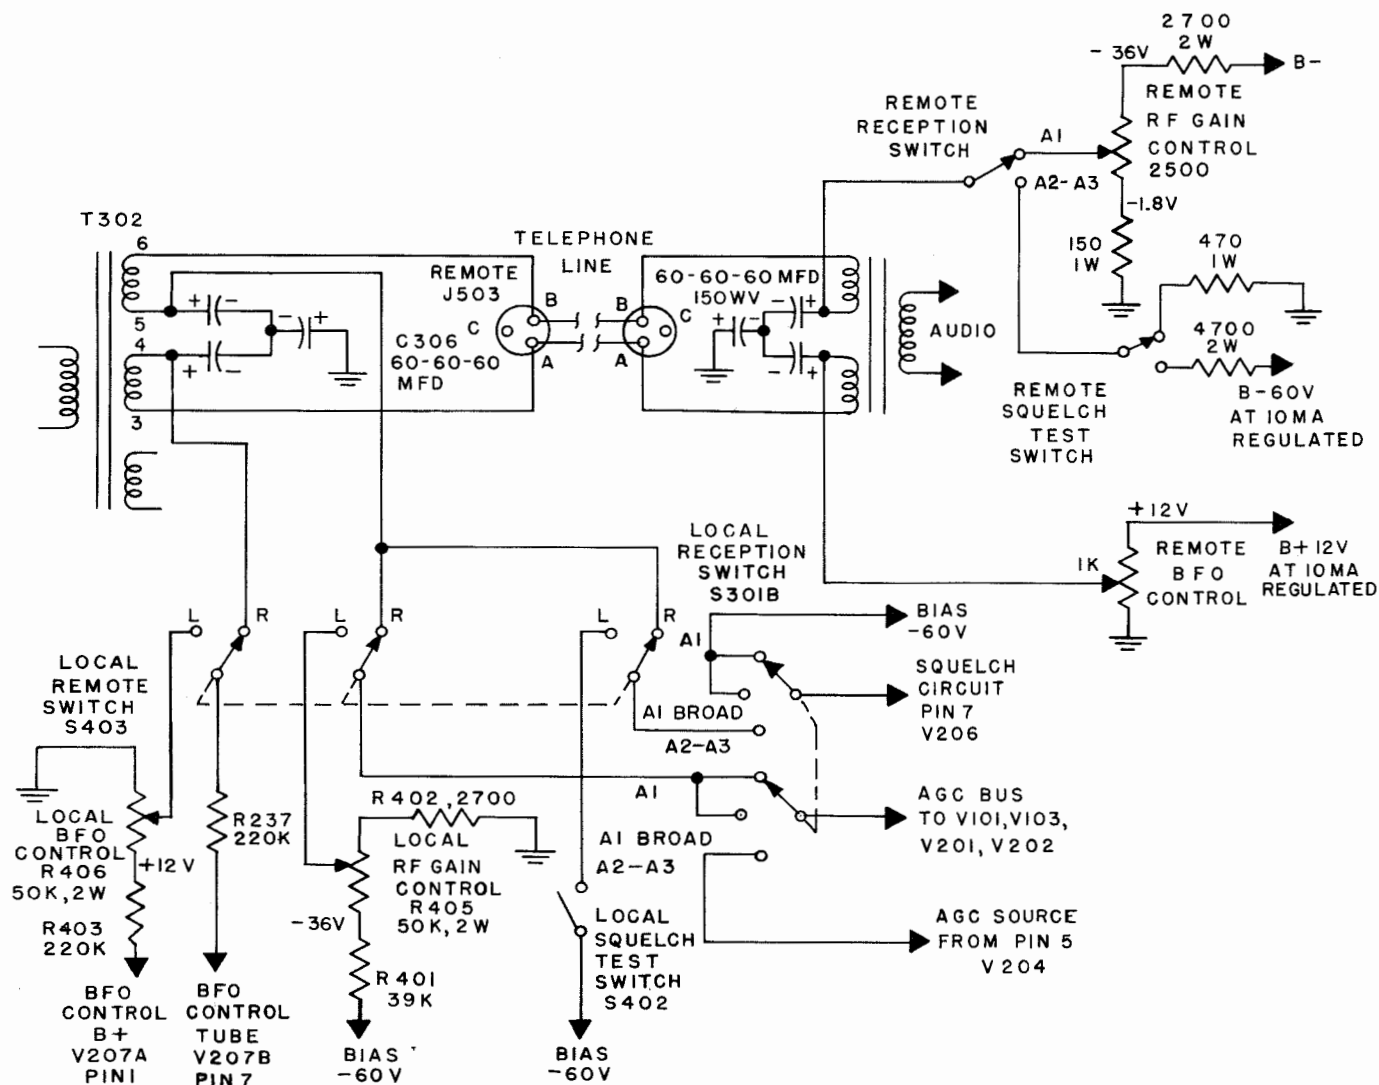

Figure 2-24. Simplified Schematic—Remote Connections
d. REMOTE CONTROL FUNCTIONS.—Figure 2-24 shows a schematic wiring diagram for the remote control connections. The high level output winding of audio output transformer T302, terminals 3, 4, 5 and 6, has its center tap effectively bypassed for AC by a triple section electrolytic capacitor C306. This capacitor per-
The remote BFO control should provide an adjustable voltage from 0 to +12 volts utilizing a potentiometer with the same taper as the local BFO control (R406). As can be seen from figure 2-24, the positive remote BFO control voltage is connected to the lower half of the remote transformer primary winding, through pin A of J503, through secondary winding 3-4 of T302 and thus to the REMOTE position of the LOCAL-REMOTE switch (S403). The local BFO control (R406) is connected to the LOCAL position of the LOCAL-REMOTE switch (S403). A remote RECEPTION switch must be provided so that either of the two control functions applied to the other side of the telephone line can be selected. Figure 2-24 indicates the remote RECEPTION switch. When switched to A1, it connects the RF gain control voltage from the remote RF GAIN control through the remote RECEPTION switch to the upper side of the telephone line. This function passes through pin B of J503 and through T302 winding 5-6 and is then connected to two REMOTE contacts of the LOCAL-REMOTE switch (S403). The local RF GAIN control (R405) is connected to a LOCAL contact of the LOCAL-REMOTE switch (S403). Therefore, either the local or remote RF GAIN controls can be selected to
control the RF gain circuits of the receiver through RECEPTION switch S301B during A1 and A1 BROAD reception. The RF gain control voltages are applied to the AGC bus and thus to V101, V201 and V202 in order to control the over-all receiver gain. When the remote RECEPTION switch is set for A2-A3 reception, a negative voltage of 60 volts can be applied at the will of the operator through the remote SQUELCH test switch as indicated, and through a limiting resistor over the upper telephone line wire to the same two remote contacts of the LOCAL-REMOTE switch utilized by the remote RF GAIN control circuit. A negative voltage of -60 volts can be applied through the local SQUELCH test switch (S402) to the local position of the LOCAL-REMOTE switch (S403). As can be seen from figure 2-24, the V206B squelch tube grid can be connected through the A2-A3 position of the RECEPTION switch (S301B) to either the local or remote SQUELCH test switch.